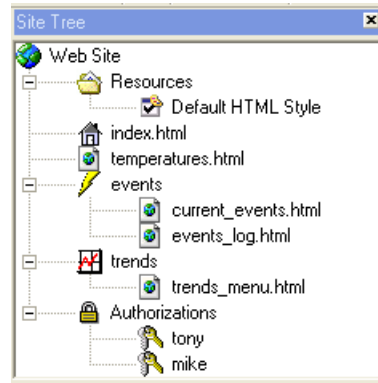

**Figure 185: Adding a User**
1. Right-click Authorizations and select Add (Figure 185). The Add Authorization window appears (Figure 186).